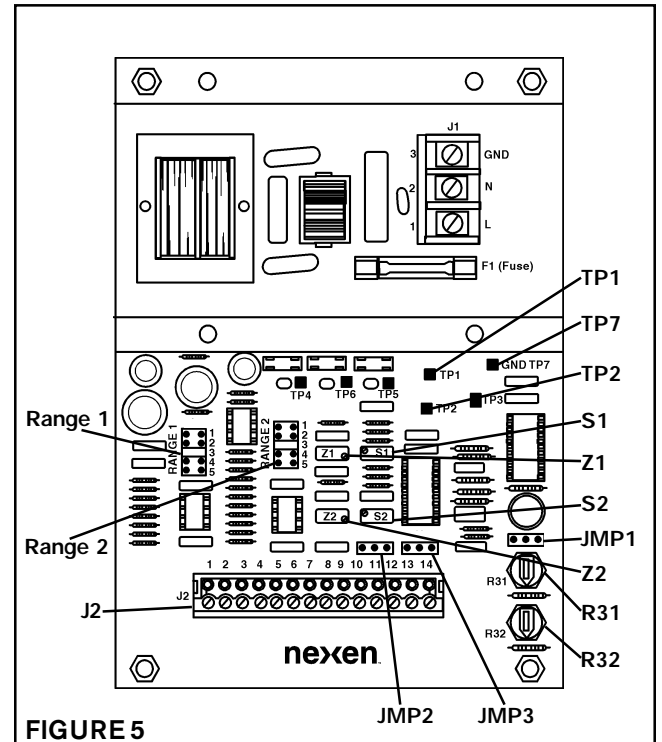

FIGURE 5
1. Check jumper and Range settings (See Figure 5) with chart above and adjust as necessary.
3. Rotate **S1** and **S2** fully counterclockwise (See Figure 5).
5. Connect a voltmeter to **TP7** (com) and **TP1** (See Figure 5).
6. Adjust **Z1** until voltmeter displays 0.00 VDC at **TP1** (See Figure 5).
8. Adjust **Z2** until voltmeter displays 0.00 VDC at **TP2** (See Figure 5).
9. Remove voltmeter lead from **TP2** and attach to position 10 of **J2** (See Figure 5).
4. Connect the voltmeter to position 12 of **J2** (Current Source) and position 11 of **J2** (Current Return) (See Figure 5).
5. Cover the sensor window and adjust **R32** until the voltmeter displays 4.00 mA (See Figure 5 & 6).
6. Uncover the sensor window and adjust **R31** until the voltmeter displays 20.0 mA (See Figure 5).